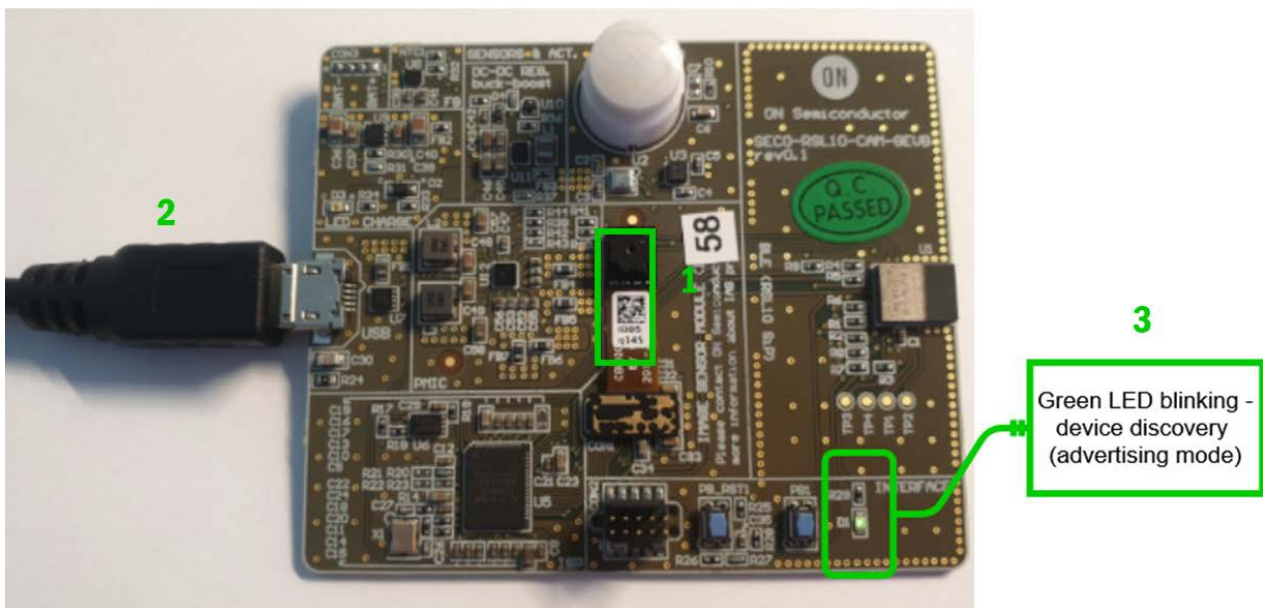

Figure 1. Unboxing the RSL10 Smart Shot Camera
To get started with the platform, remove the protective layer from the camera module (1) and connect the provided USB cable to your PC's USB port (2). A green LED, shown in Figure 1 below, will begin blinking to confirm that the device is ready and in Advertising Mode.